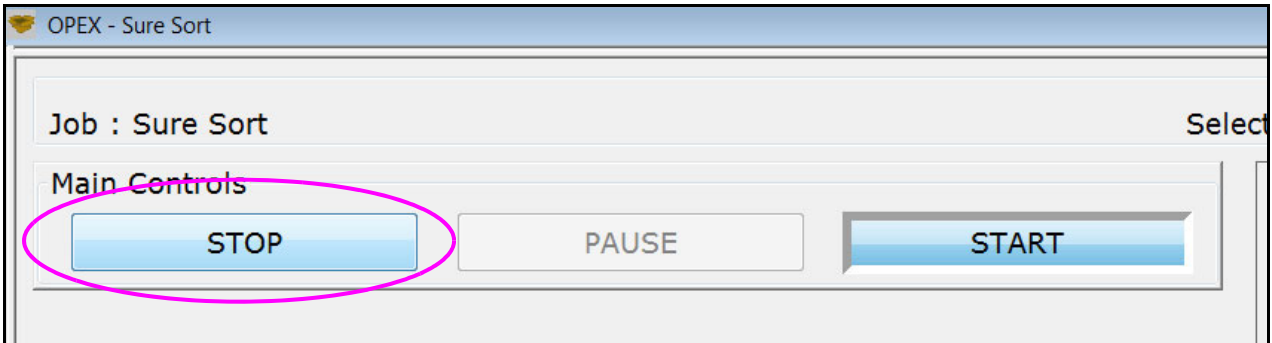

Figure 4-37: OPEX Host Run Screen - STOP Button
1. When finished, on the OPEX Host screen, click **STOP** (see Figure 4-37). This stops the conveyors and homes the iBOTs.